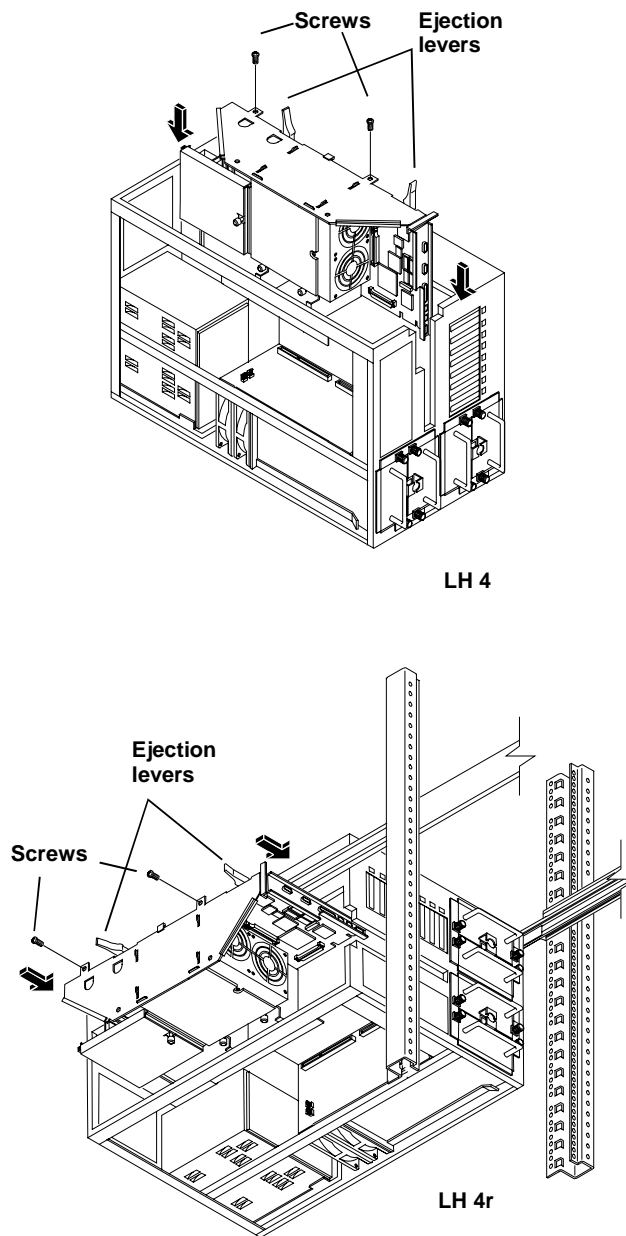

Figure 3-9. Inserting the LH 4 CPU Baseboard into the Chassis
The side of the CPU baseboard facing the front of the LH 4 fits into the long black guide slot mounted to the chassis. The side of the CPU baseboard facing the rear of the LH 4 fits into two slots that frame the connectors on the rear edge of the CPU baseboard. Note the metal liner around the edge of the CPU baseboard and be careful not to snag it on the chassis. See Figure 3-9.
4. Attach the two Torx thumbscrews to secure the CPU baseboard to the chassis, as shown in Figure 3-9.